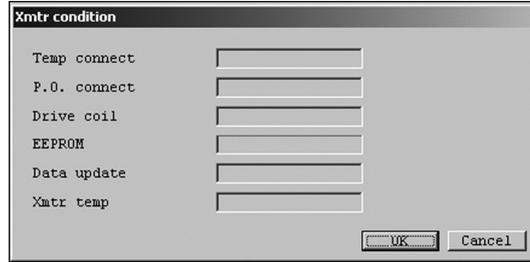

Fig.101
- ⑥ Click the "OK" button to return to the window from before the check, and then click the "Cancel" button to close the window. Clicking "OK" here will start the drive resistance check over again.
- ① Click the "Diag/Service (T)" menu, select "Self Diag" from the "Test/Status" drop-down list, and then click "Xmtr condition" under that.
- ② The following window will be displayed (Fig. 101). This will check the converter internal state.